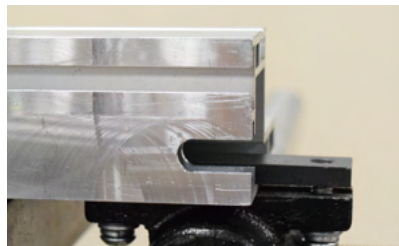

**Fig. 34**
2. Slide the fence off of the plate, removing it from the carrier knuckle. (Fig. 34 & 35)